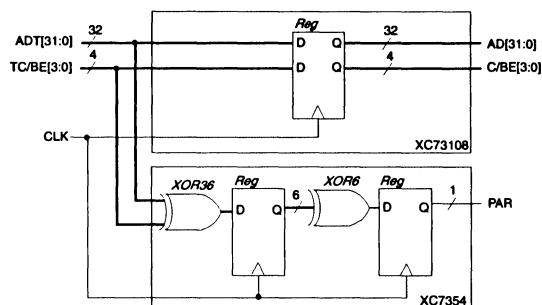

Figure 15. Parity Generation Block Diagram
Xilinx XC7300 devices provide an efficient macrocell structure to easily generate parity. Each High-Density Function Block (FB) macrocell is capable of generating parity across 6-bits. The entire 36-bit parity calculation can be performed within one clock cycle (30 nsec) using a variety of design techniques. In a pipe-lined design, the first stage of the pipe-line generates parity calculations on sub-segments of the 36-inputs (six 6-bit segments). The parity outputs from the first stage are fed into the second pipe-line stage which completes the parity calculation. Figure 15 illustrates how this works.